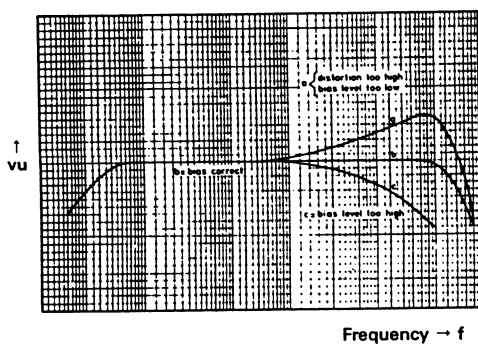

Fig. 1
- *d. When one channel is adjusted, this may slightly affect the adjustment of the other channel. If the adjustment is correct, the frequency response curve will be similar to curve b in Figure 1, with distortion below 3% (-3 dB rec/play).